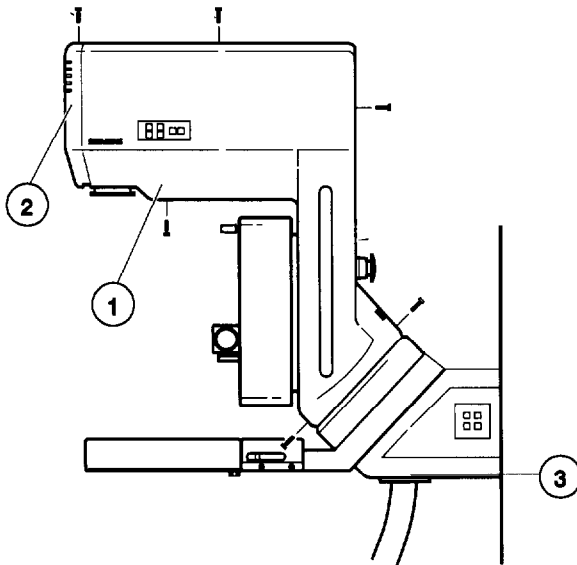

Fig. 2
- Check the condition of the cables and the corrugated tubing (3/Fig.2) while removing the following covers (refer also to the Service Instructions, chapter 2):
- X-ray tube covers (left, right and front) (1, 2/Fig. 2)